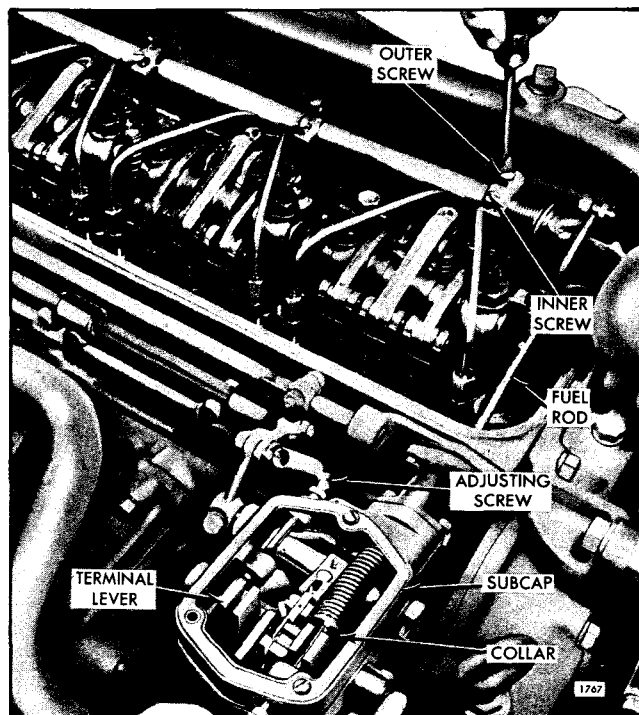

Fig. 2 - Positioning No. 1 Injector Rack
1. Turn the outer adjusting screw (Fig. 2) in until a slight movement of the injector control tube lever is observed. Tighten the inner adjusting screw.